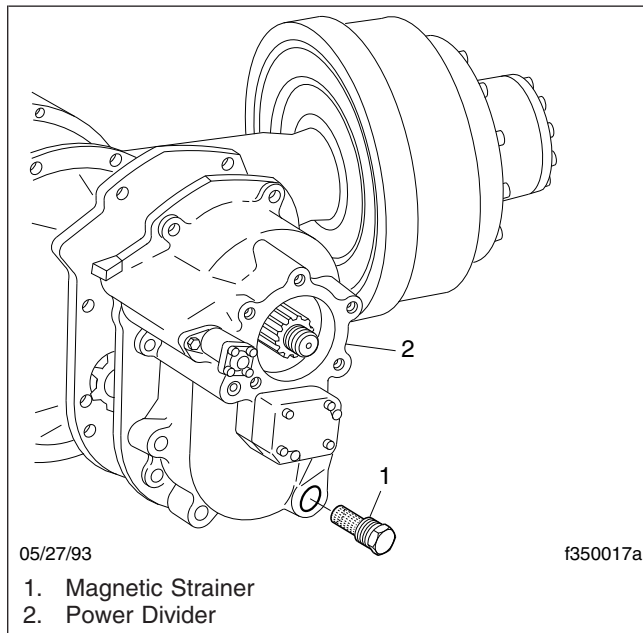

Fig. 8, Dana Spicer Tandem-Drive Axle Magnetic Strainer
- 4.1 Remove the magnetic strainer from the power divider cover. See **Fig. 8**.